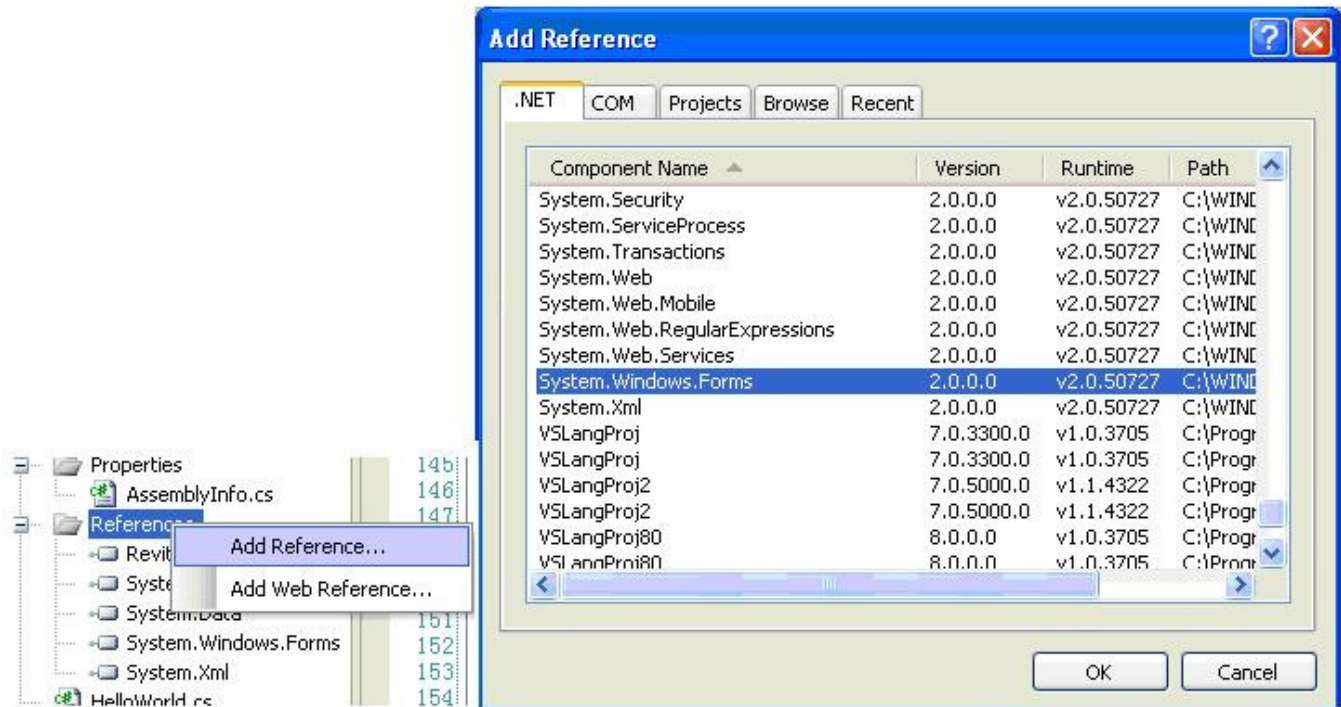

Figure 2: Add Reference
- From the context menu, click Add Reference. The Add Reference dialog box appears (see Figure 2: Add Reference below).